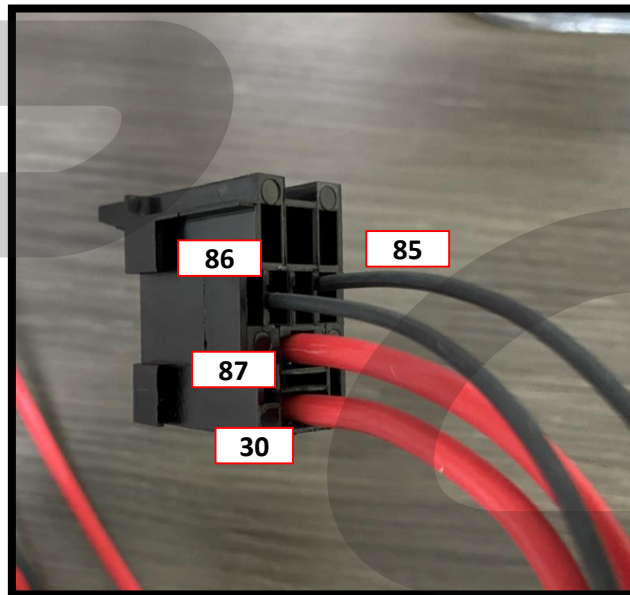

Figure 15d
- f) **Connect the silver post of the breaker to the "30" terminal of the relay.** Again, use the supplied ring terminals and butt connectors. For reference, terminal 30 is the bottom red wire shown in **Figure 15d**. If extra wiring is needed, use 10 gauge wire.
- g) **Connect the "87" terminal to the positive (red) side of the fuel pump.** For reference, terminal 87 is the top red wire shown in **Figure 15d**. If extra wiring is needed, use 10 gauge wire. Use the ring terminal, nut, and weather cover supplied with the fuel pump.
- i) **Connect the "86" terminal to switched 12V power.** This is a location that is only powered when the ignition is switched ON. For reference, terminal 86 is the left side black wire shown in **Figure 15d**. If extra wiring is needed, use 18 gauge wire.
k) Connect the "85" terminal to the "NO" terminal on the Hobbs Switch.. For reference, terminal 85 is the right side black wire shown in **Figure 15d** on the previous page. The NO terminal on the Hobbs switch is labeled in **Figure 15e**. If extra wiring is needed, use 18 gauge wire. You will need some small female spade connectors to connect to the Hobbs switch terminals.